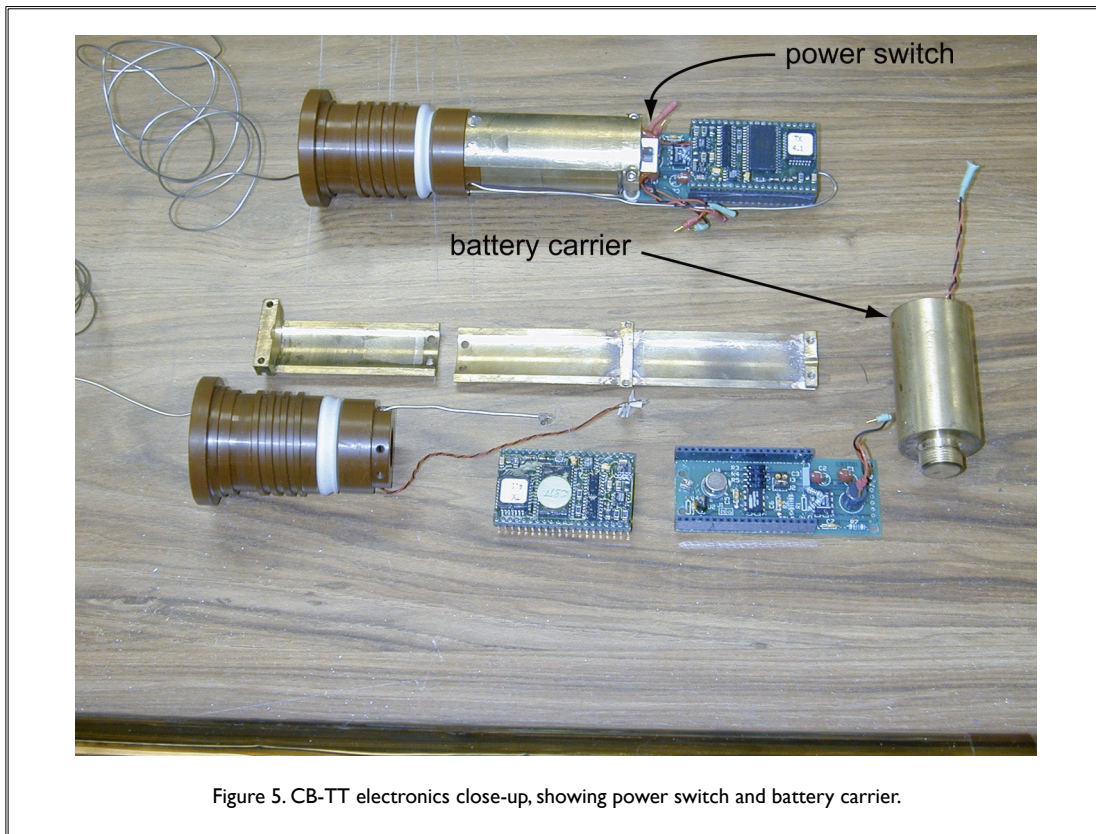

Figure 5. CB-TT electronics close-up, showing power switch and battery carrier.
- E. Turn on the CB-TT by setting the power switch (shown in Figure 5, below) to “I”.
The tool must be completely dismantled to change the battery. The battery used is a Tadiran TL-6526 high temperature lithium (3.9V). It is glued into a special brass battery carrier, shown in Figure 5 (page 6).